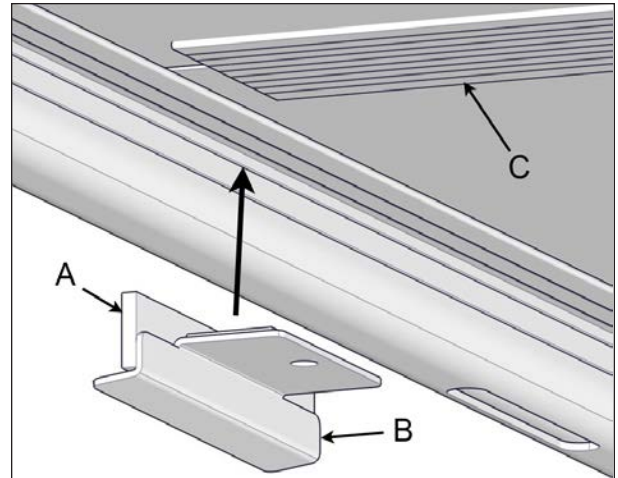

FIGURE 57: WIPER LOCATION
3. Under the cover, locate an I-beam and orientate the wide flap of the wiper outwards of the cover, see Figure 57.